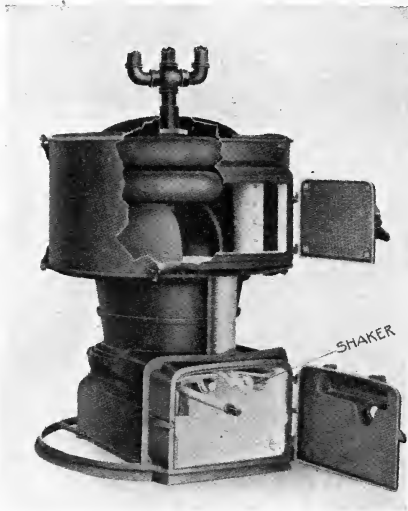
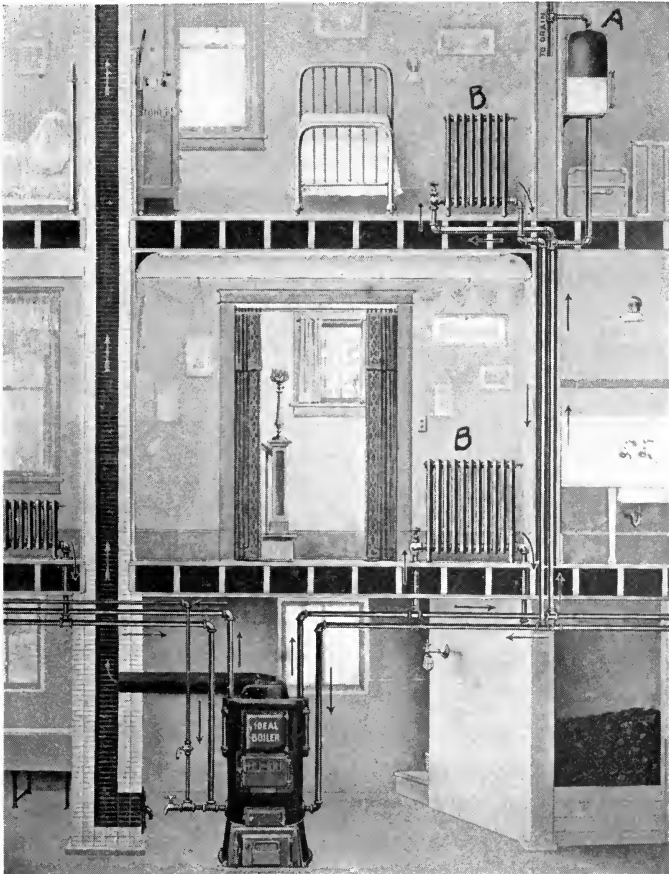
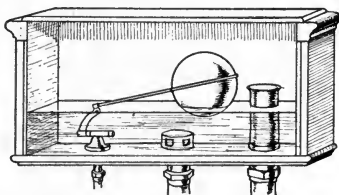
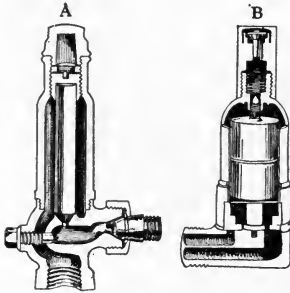

FIG. 30. Garland furnace with hot-water boiler.
FIG. 31. Hot-water heating system.
FIG. 32. Expansion tank.
FIG. 33. Vents for radiators.
(Fig. 30). From the boiler, pipes lead to radiators and an expansion tank, and return pipes bring the cold water back to the bottom of the boiler (Fig. 31).
67. Expansion Tank. The expansion tank (A, Fig. 31, and Fig. 32), placed somewhat higher than the top of the highest radiator, is fitted with an overflow, for water expands as it is heated. If the expansion tank is closed so that the overflow pipe will not open except under pressure after the air in the tank has become compressed by the expansion of the water, a higher temper-
69. Radiators. Radiators (*B*, Fig. 31) are made of rather complicated coils of pipe, so often an accumulation of air lodges in them. This interferes with the circulation of the water and the radiator does not get hot. There usually is a vent (*A* and *B*, Fig. 33) attached to each radiator to let out air which collects there. If a radiator does not heat well, open the air vent until the air ceases to flow from it and water comes; then close it.